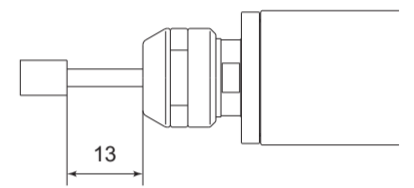

Fig. 23
- Do not exceed 13mm of overhang for mounted grindstones as shown in Fig. 23. If the overhang must exceed 13mm, reduce the motor speed in accordance with Table 4.